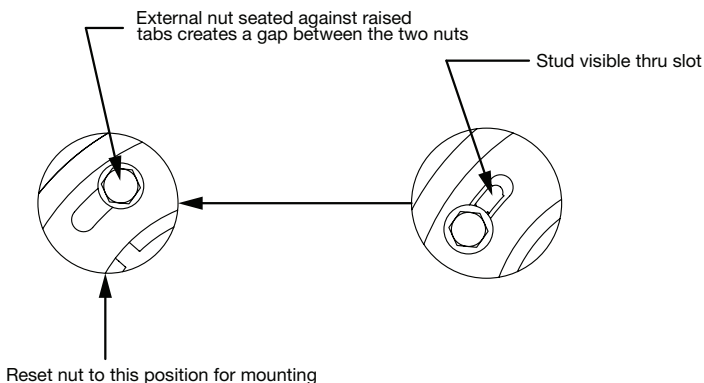

Figure 5 - External nut position for installation
2. Loosen the hex head mounting bolts and position the external so that it is seated on top of the raised tabs, which creates the gap between the external and internal nuts. The external should be rotated counter clockwise so that the bolts are shouldered against the side of slot as shown in Figure 5.